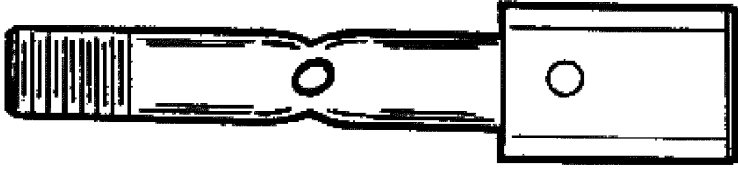

FIG. 2
5. Remove the seven (7) mounting bolts from the control wheel bearing bracket located at the extreme end of the right control wheel shaft. (Note position of shims between the bearing bracket and the firewall to be certain they are placed in the proper position when re-installing the bearing bracket.)
6. Locate the two turnbuckles in the aileron control chain assembly that inter-connects the two control wheel shaft assemblies, remove safeties from the two (2) turnbuckles and disconnect the turnbuckle eyes. New safety clips are required when connecting the turnbuckles after this inspection is completed. (Noting of threads shown or the amount of turn-out required to remove the turnbuckle eyes will be assistance when re-installing the chain assembly.)
8. Pull control column back until the two (2) roll pins in the forward end of the control wheel square shaft are exposed. In the event the square shaft has only one (1) roll pin and the end of the square shaft is peened, disregard paragraphs 9 through 16 and refer to paragraphs 17 through 28.
9. Examine the roll pins carefully to determine which end has been subjected to pounding. Support shaft with a bucking bar when removing roll pins. Remove the two (2) roll pins from the shaft with a drift punch the same diameter as the roll pin. Drive the roll pins out in the opposite direction from which they were originally driven into the shaft.
15. Carefully inspect the sprocket stud, part number 20913-00, around the hole where the sprocket was attached and ascertain that the stud is not cracked or twisted and the hole is not elongated. (See Figure 2.)
16. After inspecting the sprocket stud, part number 20913-00, and replacing, if necessary, re-assemble in reverse (1) through (14). If part number 20913-00 or 20975-00 must be replaced, telephone the Service Department, Piper Aircraft Corporation, Lock Haven, Pennsylvania immediately.
18. Remove the four (4) screws from the control wheel shaft front bearing.
19. Mark the location of the two (2) screws in the control wheel shaft rear bearing and remove the screws.
20. Remove the two (2) cotter pins guiding the aileron cable mounted on the control wheel shaft center bearing.
26. Carefully inspect the sprocket stud around the hole where the sprocket was attached and ascertain that the stud is not cracked or twisted and the hole is not elongated. (See Figure 2.)
28. After inspection is completed, re-assemble in reverse (1) through (26).
9. Locate the four (4) turnbuckles in the two (2) chain assemblies which are installed on the double sprocket at the forward end of the left control wheel shaft.
10. Remove safeties from the four (4) turnbuckles and disconnect turnbuckle eyes. (Noting of threads shown or the amount of turn-out required to remove the turnbuckle eyes will be of assistance when re-installing the chain assemblies.) New safety clips are required when connecting the turnbuckles after this inspection is completed.
12. Pull control column back until the two (2) roll pins in the forward end of the control wheel square shaft are exposed. In the event the square shaft has only one (1) roll pin and the end of the square shaft is peened, disregard paragraphs 13 through 20 and refer to paragraphs 21 through 31.
13. Examine the roll pins carefully to determine which end has been subjected to pounding. Remove the two (2) roll pins from the shaft with a drift punch the same diameter as the roll pin. Drive the roll pins out in the opposite direction from which they were originally driven into the shaft.
19. Carefully inspect the sprocket stud, part number 20913-00, around the hole where the sprocket was attached and ascertain that the stud is not cracked or twisted and the hole is not elongated. (See Figure 2.)
20. After inspecting the sprocket stud, part number 20913-00, and replacing, if necessary, re-assemble in reverse (1) through (18). If part number 20913-00 or 20975-00 must be replaced, telephone the Service Department, Piper Aircraft Corporation, Lock Haven, Pennsylvania immediately.
22. Remove the four (4) screws from the control wheel shaft front bearing.
23. Mark the location of the two (2) screws in the control wheel shaft rear bearing and remove the screws.
24. Remove the two (2) cotter pins guiding the aileron cable mounted on the control wheel shaft center bearing.
30. Carefully inspect the sprocket stud around the hole where the sprocket was attached and ascertain that the stud is not cracked or twisted and the hole is not elongated. (See Figure 2.)
32. After inspection is completed, re-assemble in reverse (1) through (29).